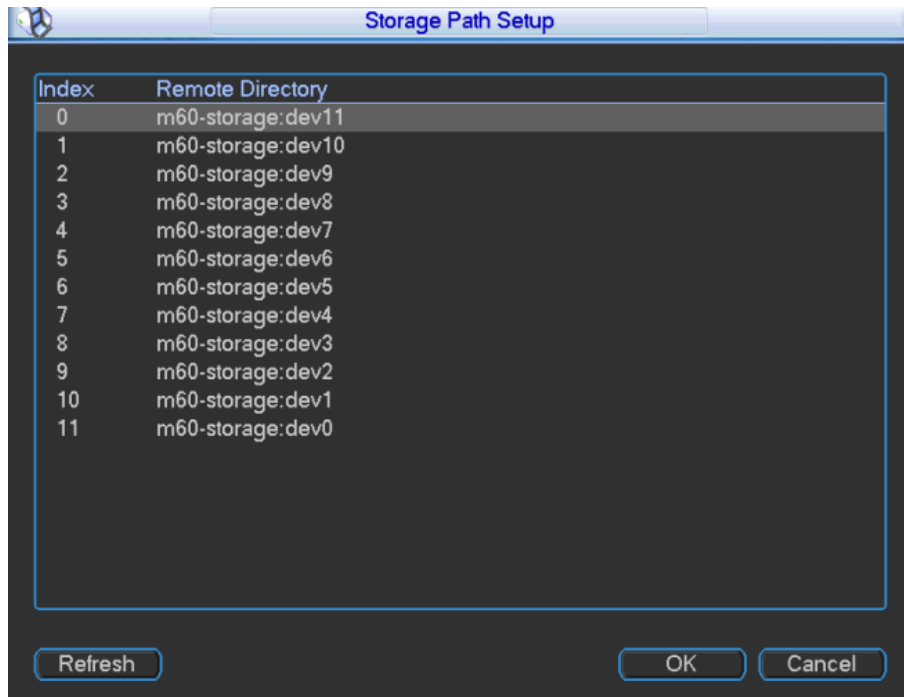

Figure 3-49
- Step 3 Click “Storage Path Setup”, and the system displays “Storage Path Setup” interface, as shown in Figure 3-49.